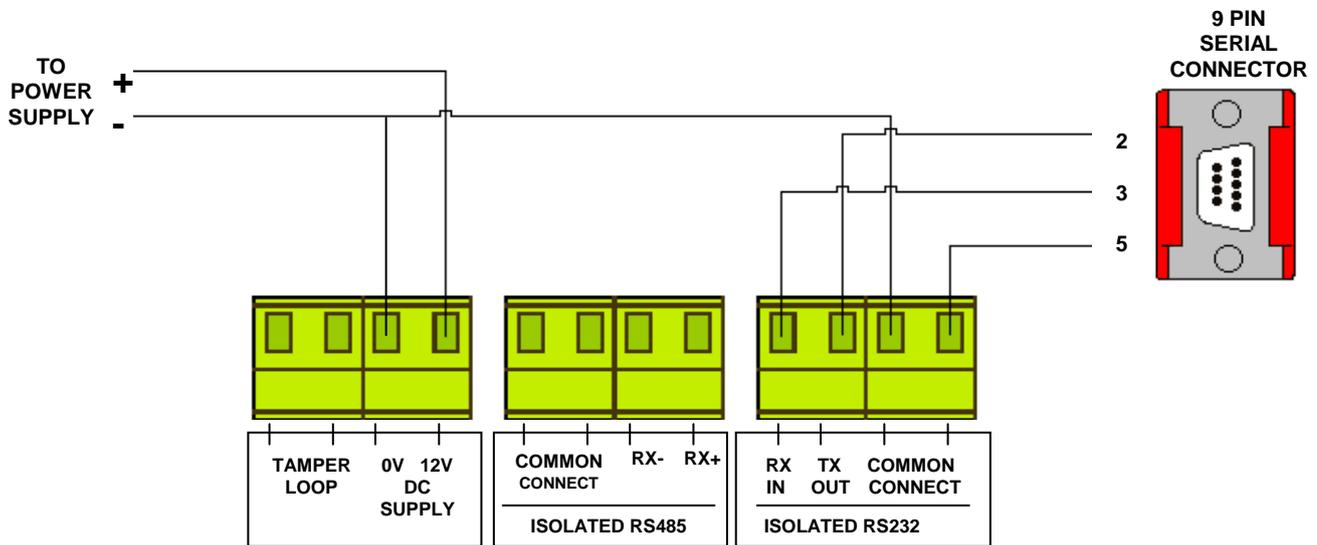

Figure 1
- 2.1 Only standard hand tools are required to install the transmitter unit. If changes are required, Windows HyperTerminal with a serial lead will be required. (See Figure 1 for details).
4.5 All Computer to HyperTerminal connections are shown in Figure 1.
Make the connections in accordance with Figure 1 below: -